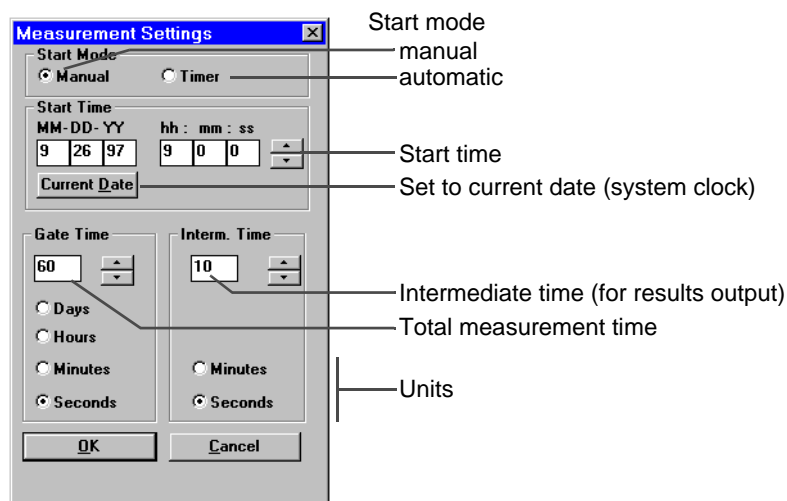

Fig. O-23 The “Measurement Settings” dialog window
1. Open the "Measurement Settings" dialog (see Fig. O-23).